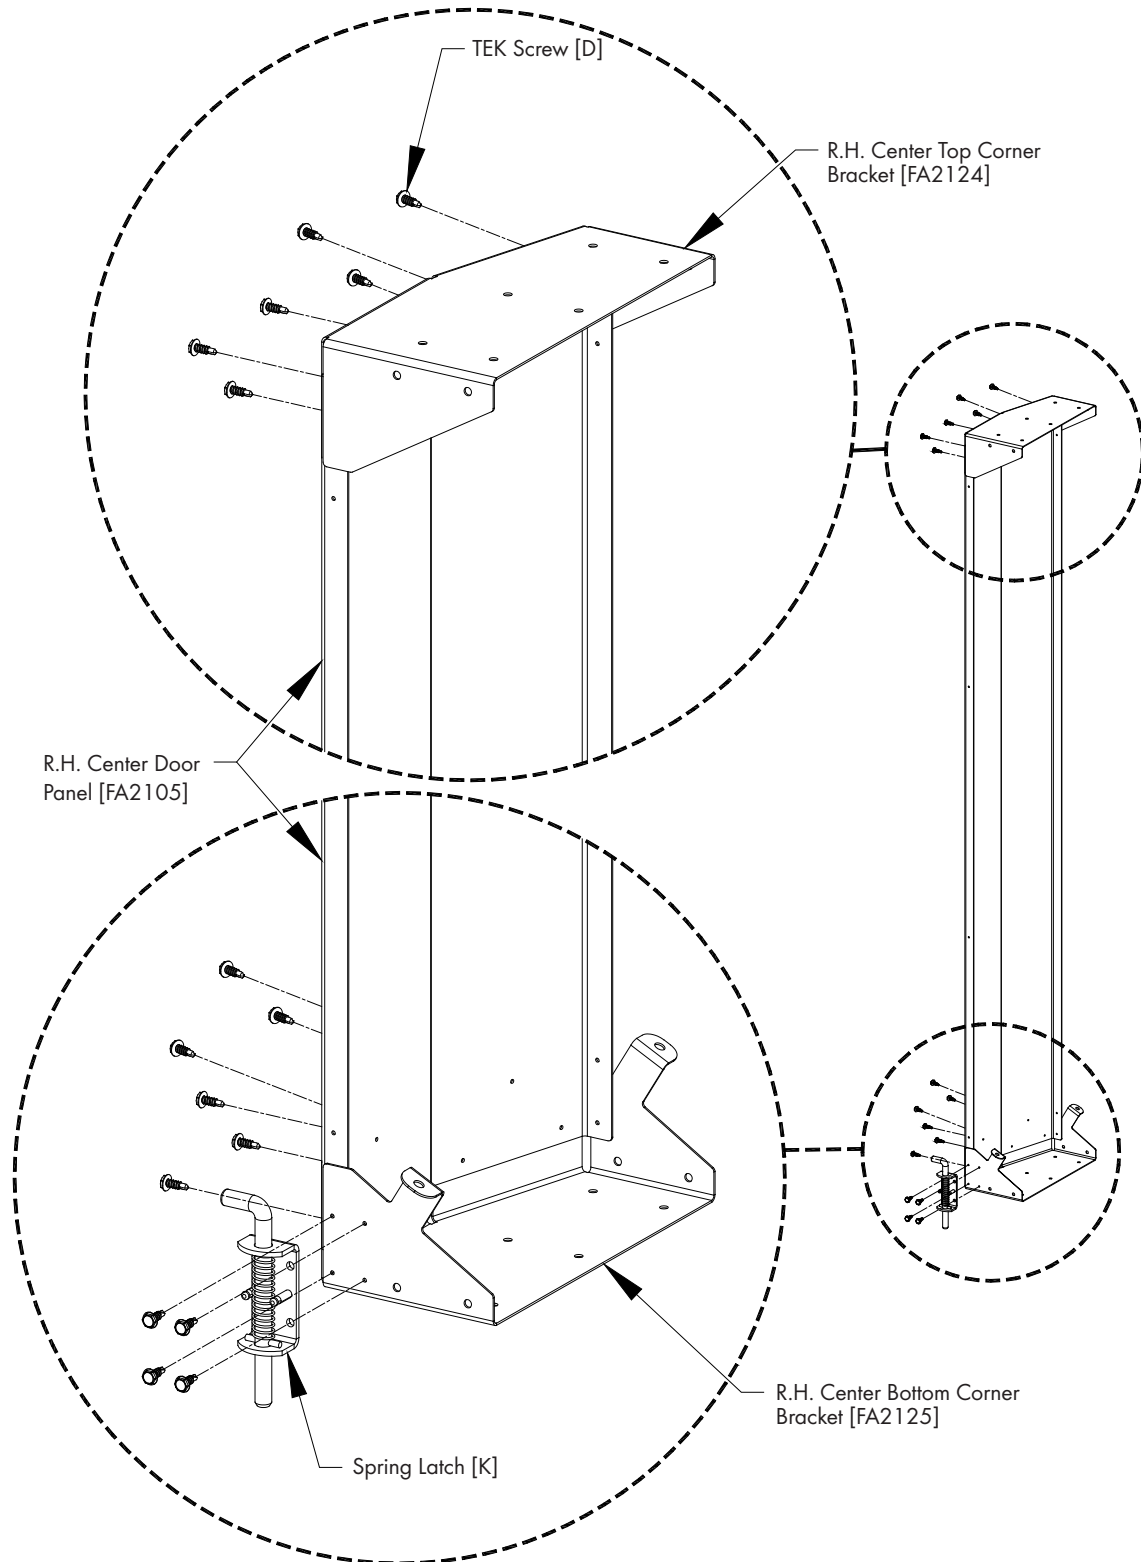

Figure 18
Attach R.H. Center Top Corner Bracket [FA2124] and R.H. Center Bottom Corner Bracket [FA2125] to the R.H. Center Panel [FA2105] using (12) TEK Screws [D]. Make sure the Arrow on the R.H. Center Panel [FA2105] is pointing up. Secure Spring Latch [K] to front of Bottom Corner Bracket using (4) TEK Screws [D] so that the Spring Latch will be on the same side of the door as the Leaf Hinge. See Figure 18.